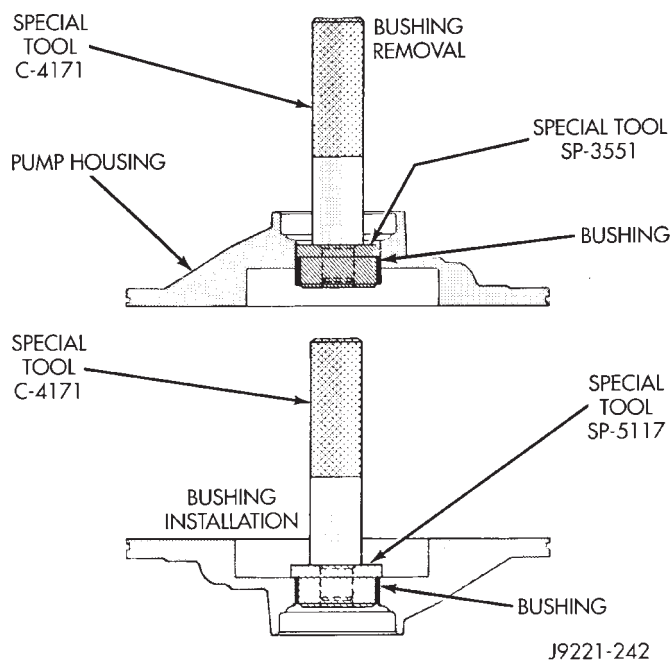

Fig. 44 Removing Oil Pump Bushing
(1) Remove pump bushing with Tool Handle C-4171 and Bushing Remover SP-3551 (Fig. 44).
(2) Install new pump bushing with Tool Handle C-4171 and Bushing Installer SP-5117 (Fig. 44). Bushing should be flush with pump housing bore.